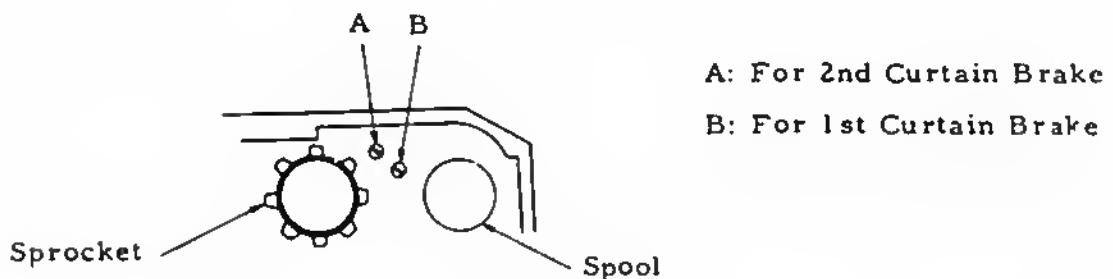

Fig. 4
- 3) For adjusting the Brake torque externally, use the eccentric screws A and B shown in Fig. 4.